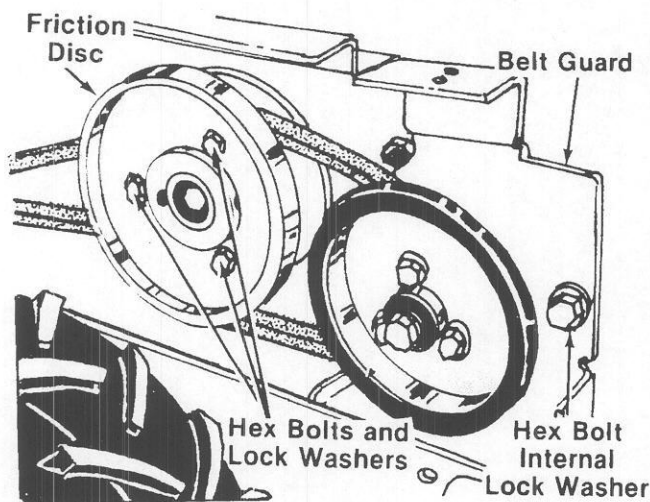

FIGURE 26.
2. Place gear shift lever in neutral position. Hold friction disc with one hand. Remove three hex bolts and lock washers which hold the friction disc to the variable speed pulley. See figure 26. Lift belt off the variable speed pulley.
3. Remove the hex bolt and internal lock washer which holds the belt guard to the engine. See figure 26. Remove the belt guard. Remove and replace the belt.